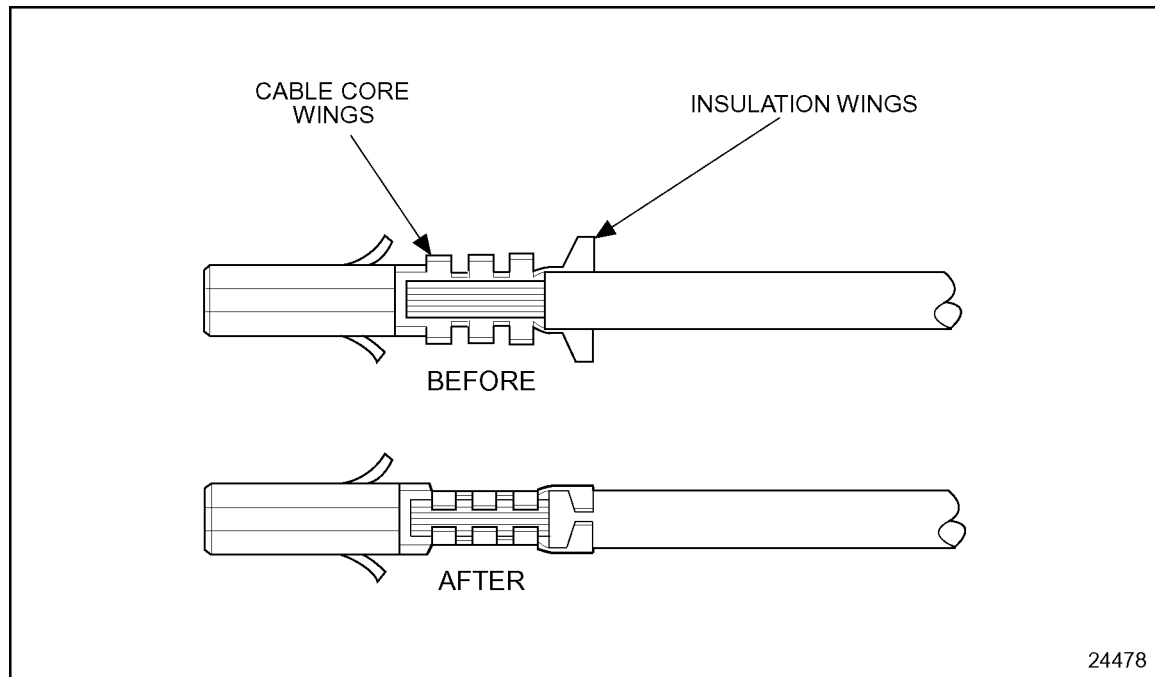

Figure 3-46 Typical Terminal Installation
4. Insert the cable into the terminal so the stripped portion is positioned in the cable core wings and the insulated portion of the cable is in the insulation wings (see Figure 3-46).